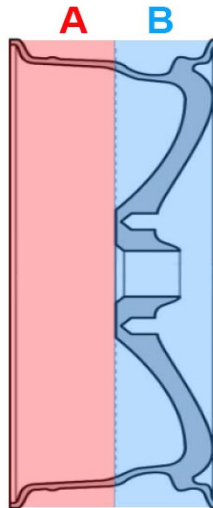
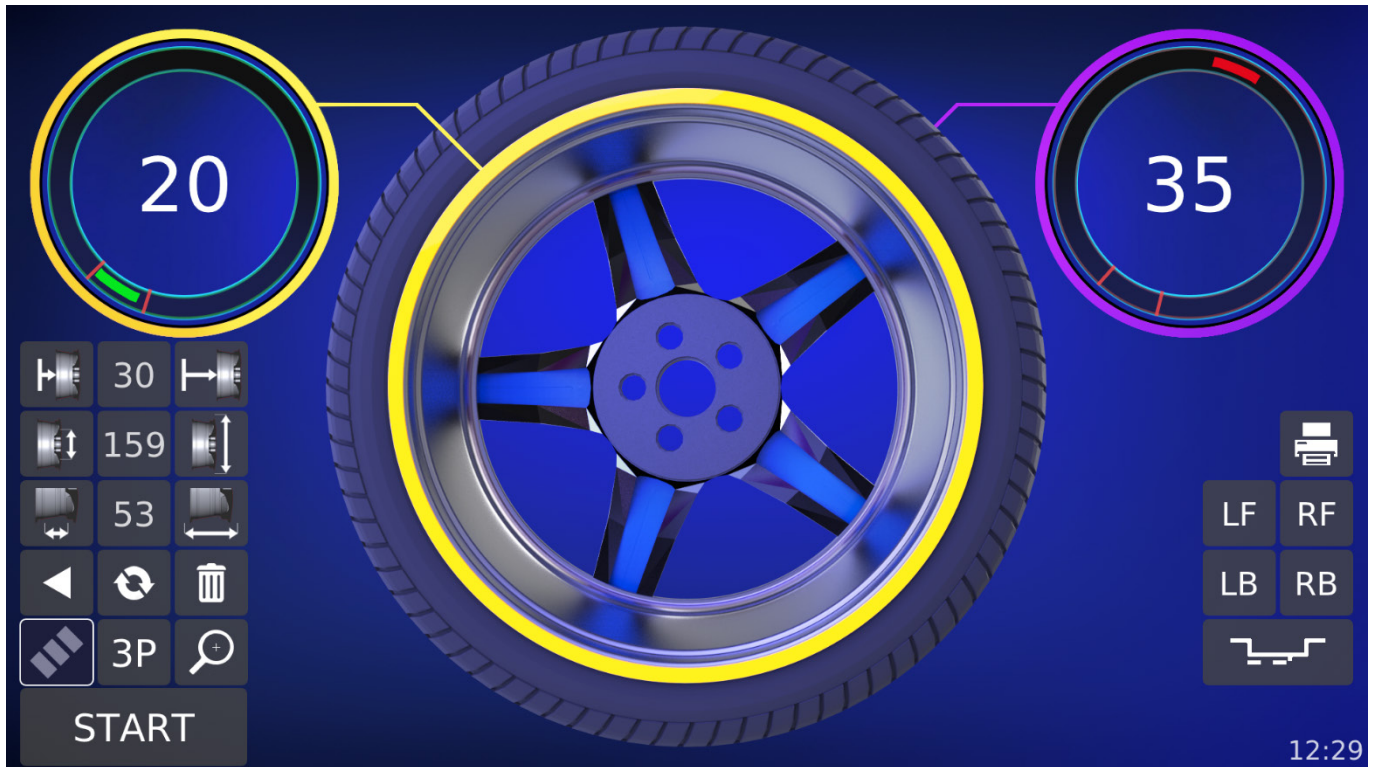

Fig. 17: Weights fastening zone
Fig. 20: Exemplary screen after the measurement
Additionally the print icons on the right side may be displayed on the screen. They are active only when printing is enabled in the settings. See the chapter PRINTING for a description. A field below the print icons is empty in Figure 16 and shows the weight distribution icon in Figure 20. This field appears after taking the measurement with the measuring arm or pressing the button , erase by pressing  and shows the selected weight fastening mode.
To measure with the measuring arm extend the arm so that the laser starts displaying a line and a dot on the rim. Regardless of whether the weight in space A from Figure 17 is to be clipped-on or taped-on - the laser dot of the arm is connected to the line **at the place of the planned weight attachment**. For clipped-on weights the dot should be aligned with the line on the left edge of the rim, as shown in Figure 18a. In the case of taped-on weights the dot should be placed on the line in the place where the weight is glued, as shown in Figure 18b.
the measuring arm which will allow to determine where the weight for space B of the wheel from Figure 17 will be mounted. If weight is attached to the outer zone B (Figure 17) (not in the center of the rim but on its right edge) put the measuring arm in its place to the zero position.
If the weight is to be mounted in the center of the rim in area B from Fig. 17, after saving the first measurement, insert the measuring arm inside the wheel. This will cause the wheel width to begin to change as the arm continues to move towards the center of the rim. After setting the arm head in the position directing the dot to the line, wait approx. 2 seconds until the machine emits a sound signal and records the result.
- a weight mounted in the center of the rim in area B from Figure 17,
If we want to hide the weight so that it is not visible after putting the wheel on, we can break it into two weights, which will be placed in places not visible from the outside - behind the rim spokes. Program 3P is active in dynamic mode and related to the right unbalance in zone B from Figure 17 for a point defined inside the rim or in static mode for a single point.
Activate the program by pressing **3P**. It always appears when the correction point in zone B from Figure 17 is defined inside the rim or when we measure in static mode. The minimum unbalance value for which the hidden weight option is activated is 7.5 g. An exemplary screen after the measurement has been made is shown in Figure 20.
We start the optimization by measuring the imbalance of the rim itself (without the tyre). Place the rim in the holder with the valve on the holder marker (3 in Figure 3) so that in the second run (after installing the tyre on it) you can mount the wheel in exactly the same way. Using the measuring arm indicate the point on the inner edge of the rim (space A in fig.17), close the hood, select . The optimization has been measured by using the rim width determined from the indicated point and from the ultrasound measurement performed when closing the hood. In case of optimization the entry of the second point inside the rim is blocked.